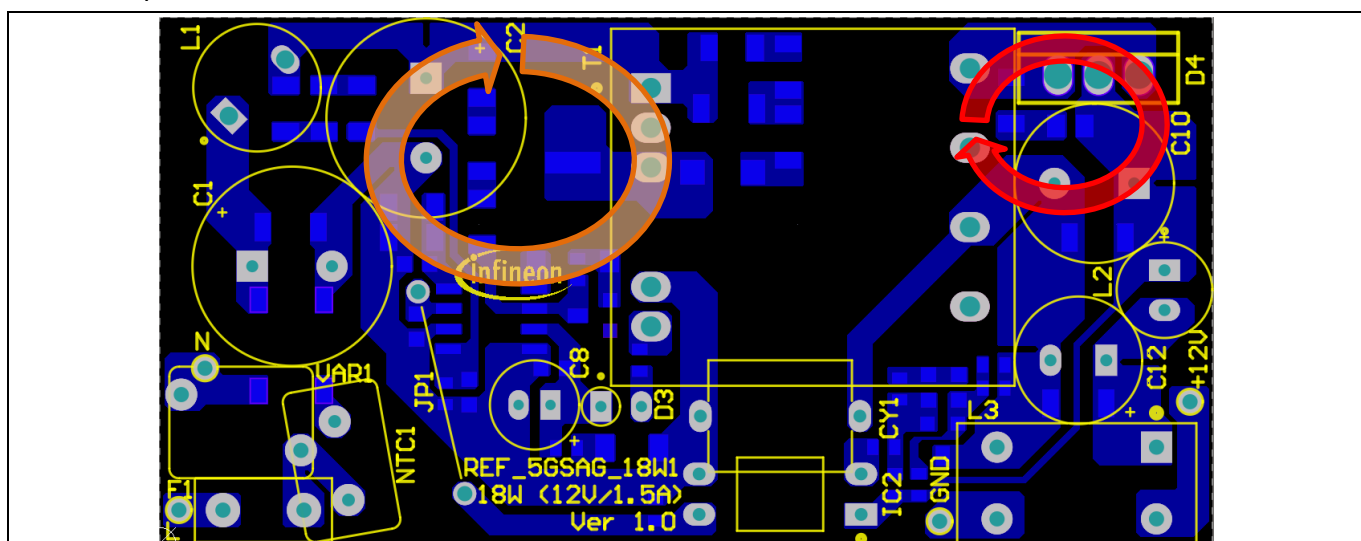

Figure 5 PCB layout tips
- The switching power loop needs to be as small as possible (see Figure 5). There are two power loops in the reference design; one on the primary side and one on the secondary side. The primary-side loop starts from the bulk capacitor (C2) positive terminal, and goes to the primary transformer winding (pin 1 and pin 3 of T1), MOSFET, controller, CS resistors and back to the C2 negative terminal. The secondary-side loop starts at the secondary transformer winding (pin 14 of T1), and goes to output diode D4, output capacitor C10 and back to pin 10 of T1.